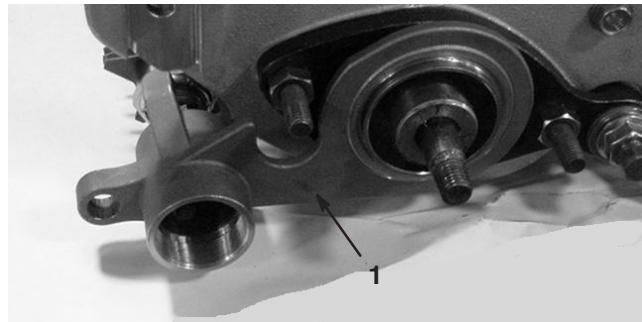

Figure 16
27. Slide the groomer housing assembly onto the ring spacer and groomer shaft (Fig. 16).